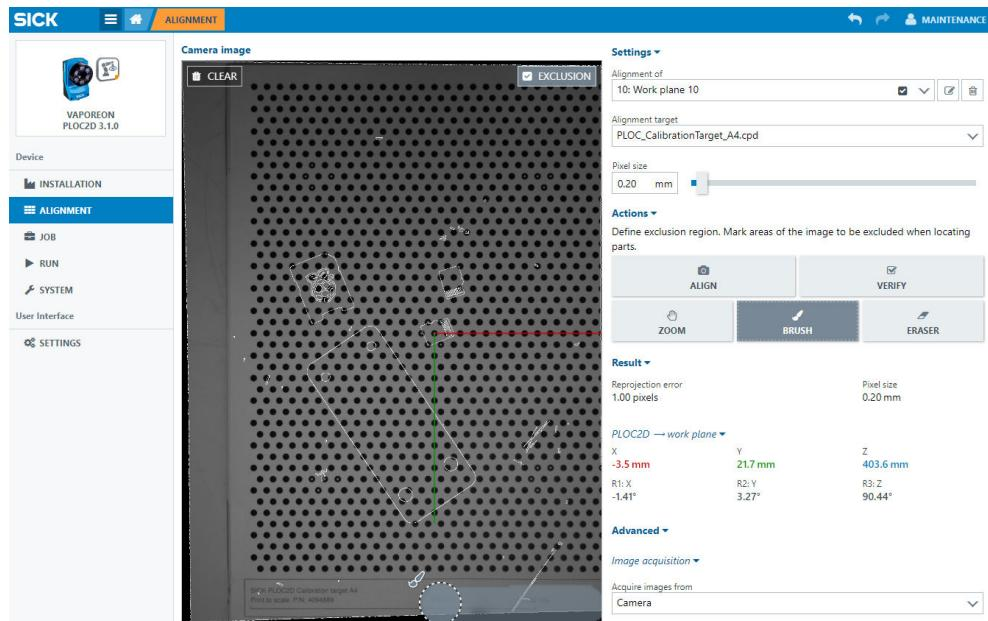

Figure 18: Work plane exclusion region
- Click **Brush** to draw an exclusion region. See figure 18.